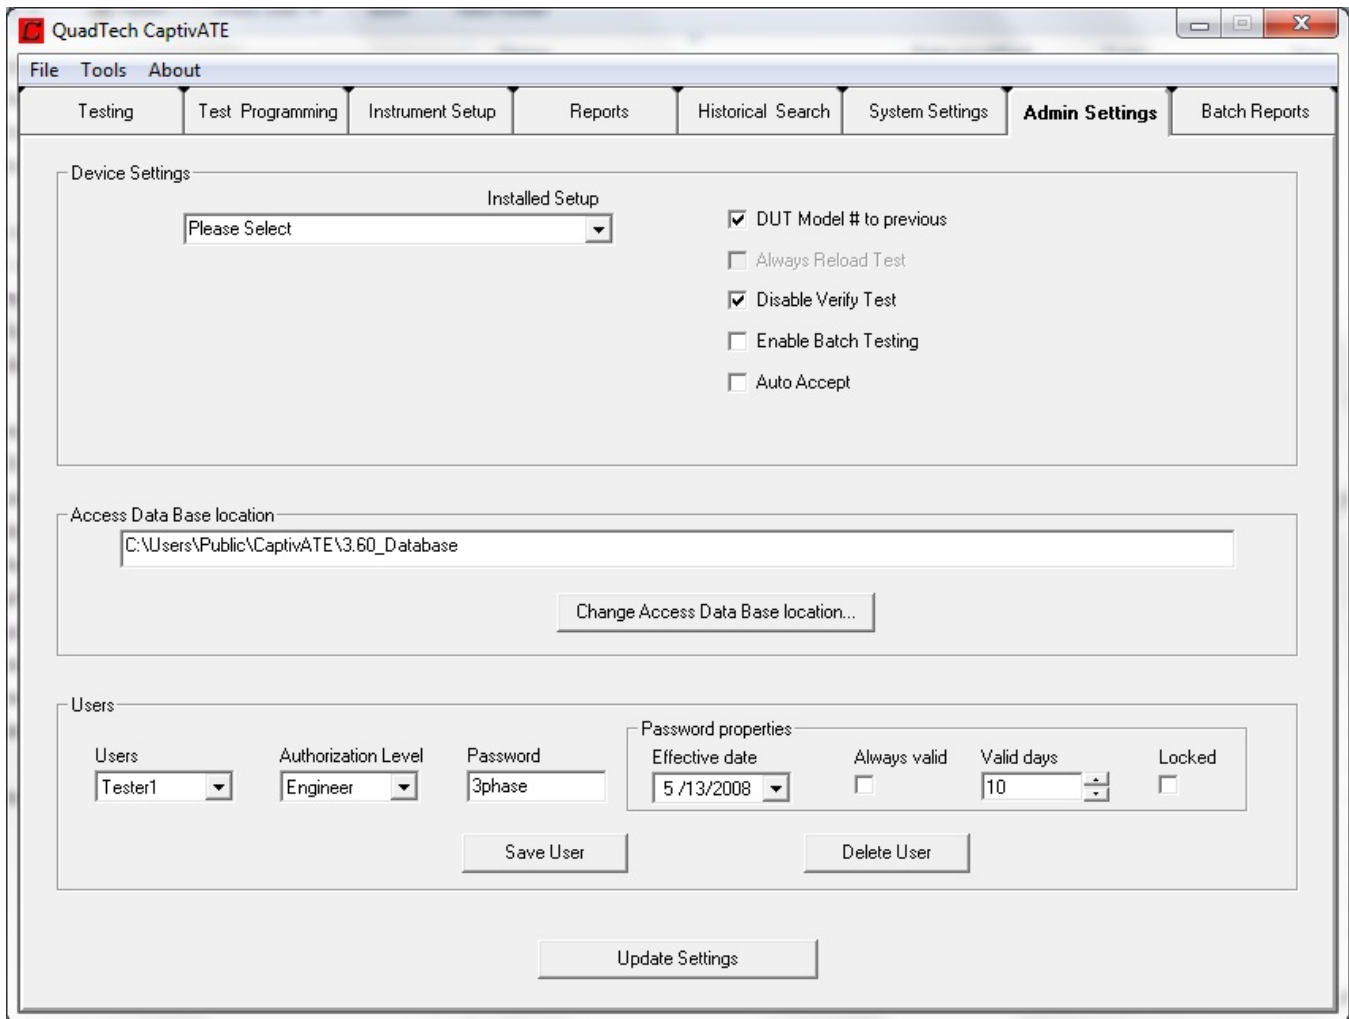

**Figure 9 File Menu and Quit Command**
2. To close CaptivATE at any time or from any screen, click **File** and then **Quit**, as shown in Figure 9
In Figure 9 , the **File** pull-down menu on the left is displayed when you are on the *Testing* screen. From any other screen, the File pull-down menu on the right is displayed.